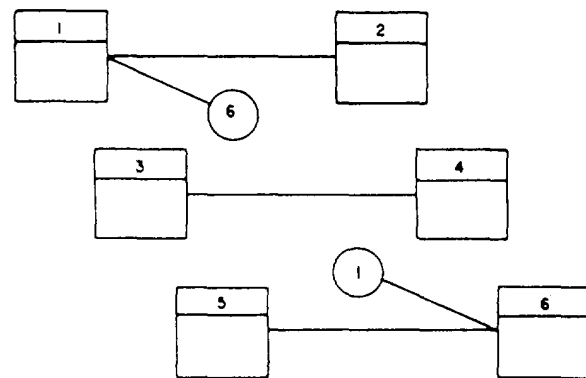

Figure 9-14.—Splitting connectors.
**SPLITTING CONNECTORS.**— The number of sequencing connectors becomes large when a net work is of a great size. When two activities are remote from each other and have to be connected, the lines tend to become lost or difficult to follow. In such cases, it is not necessary to draw a continuous line between the two activities. Their relationship is shown by circles with the following-activity number in one and the preceding-activity number in the other. In figure 9-14, both Activities 2 and 6 are dependent upon Activity 1.